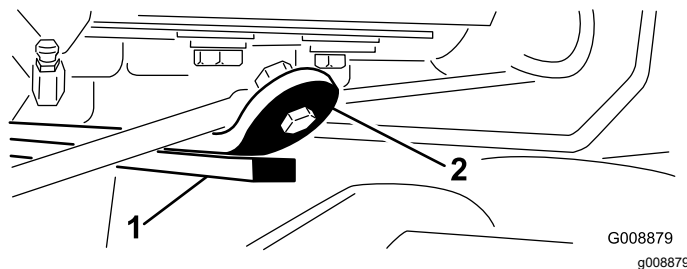

Figure 14
3. Start the engine, raise the cutting units, and check to make sure that the clearance between the wear strap on the top of the rear cutting unit wear bar and the bumper strap is 0.51 to 2.54 mm (0.02 to 0.10 inches) (Figure 14).